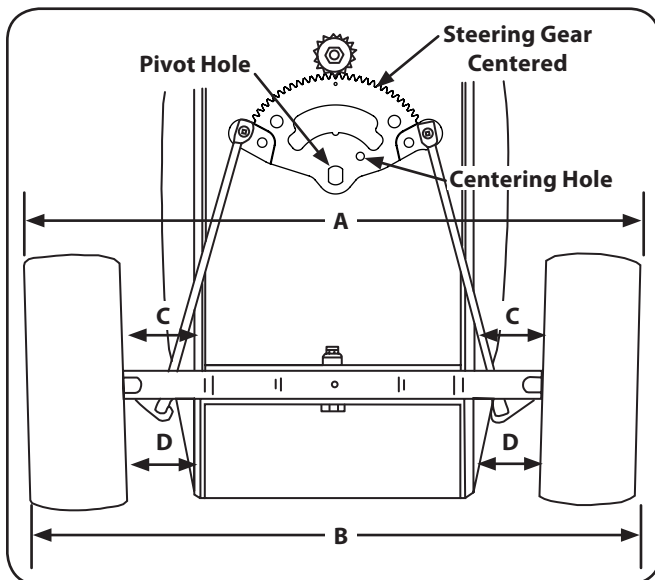

Figure 6-8
The front wheels should toe-in approximately $\frac{1}{8}$ to $\frac{1}{4}$ " as measured across dimensions A and B. See Fig. 6-8.
- Check the steering gear to ensure it is in the centered position. The hole in the steering segment gear will align with the hole in the steering housing (See Fig. 6-8).
- Measure the distance between the bottom edges of the tractor frame channels and the marks on the front of each wheel (See measurement D in Fig. 6-8). These two measurements should be equal.
- Measure the distance between the frame and the marks on the rear of each front wheel (See measurement C in Fig. 6-8). Measurement D should be approximately $\frac{1}{16}$ - to $\frac{1}{8}$ -inch less than measurement C on each side of the tractor.